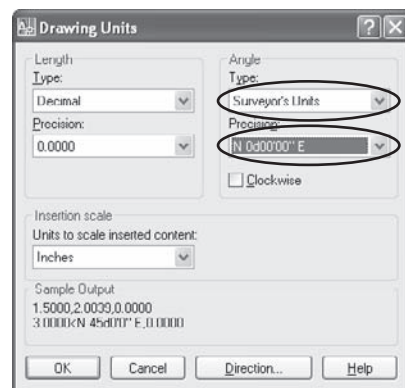

Figure 4.28
3. Set Angle Type to Surveyor's Units in the Drawing Units dialog box (see Figure 4.28).